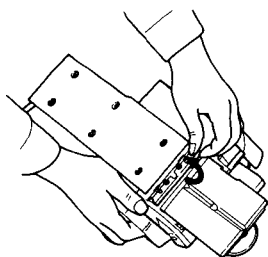

Fig. 7
(2)As shown in Fig. 7 slide the rear side of the cutter blade in the direction indicated by the arrow to disassemble the cutter blade.